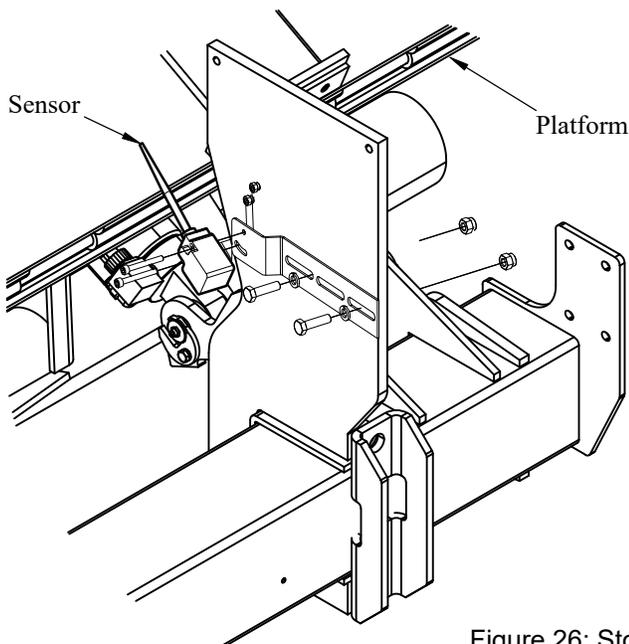

Figure 26: Stowage Stop mechanism
2. **Position** the Stowage Stop mechanism and its bracket in a position where the tip of the sensor will be in contact with the aluminum platform, on the inside portion of the liftgate bracket (Figure 26). This can be done on either the right or left side liftgate bracket.
4. **Bolt** the Stowage Stop mechanism to its bracket using the 2x M5 bolts and nuts provided in the Stowage Stop mechanism bag (Figure 26).